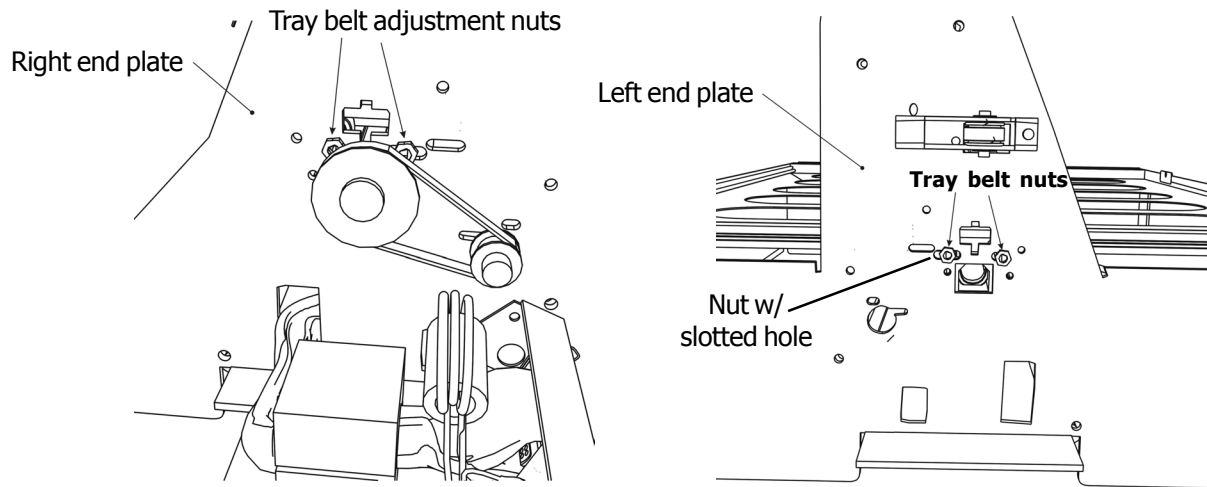

**Fig. 5-12** Right and left end plates showing tray adjustment nuts
6. Loosen the (2) 11/32" nuts located on either side of the "X" axis tray gear. *Don't remove them. See Fig. 5-12*